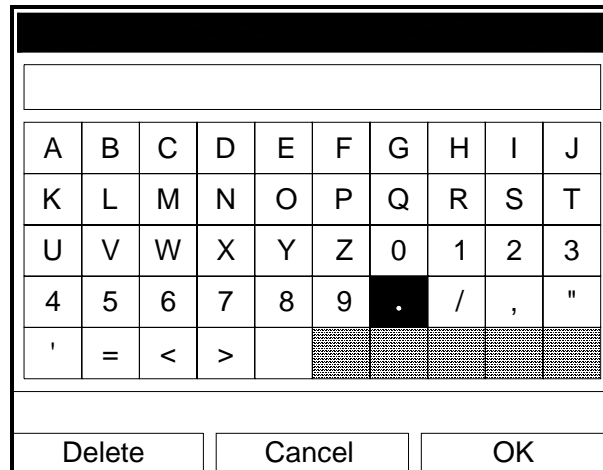

Figure 1-19: Text Creation Window
- a. Press [ENTER] to enter the text box. The text creation window appears, as shown in Figure 1-19 below.